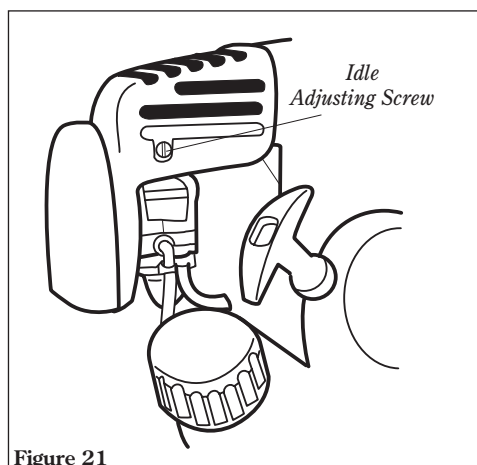

Figure 21
- If the attachment rotates when the engine is at idle, reduce the idle speed by turning the idle adjustment screw counter-clockwise. See Figure 21.